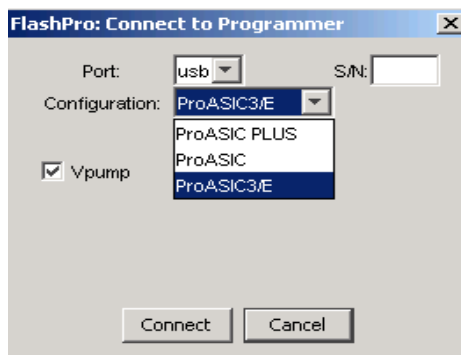

Figure 4-1. FlashPro: Connect to Programmer Dialog Box
1. From the *File* menu, click *Connect*. The **FlashPro Connect to Programmer** dialog box displays, as shown in Figure 4-1.